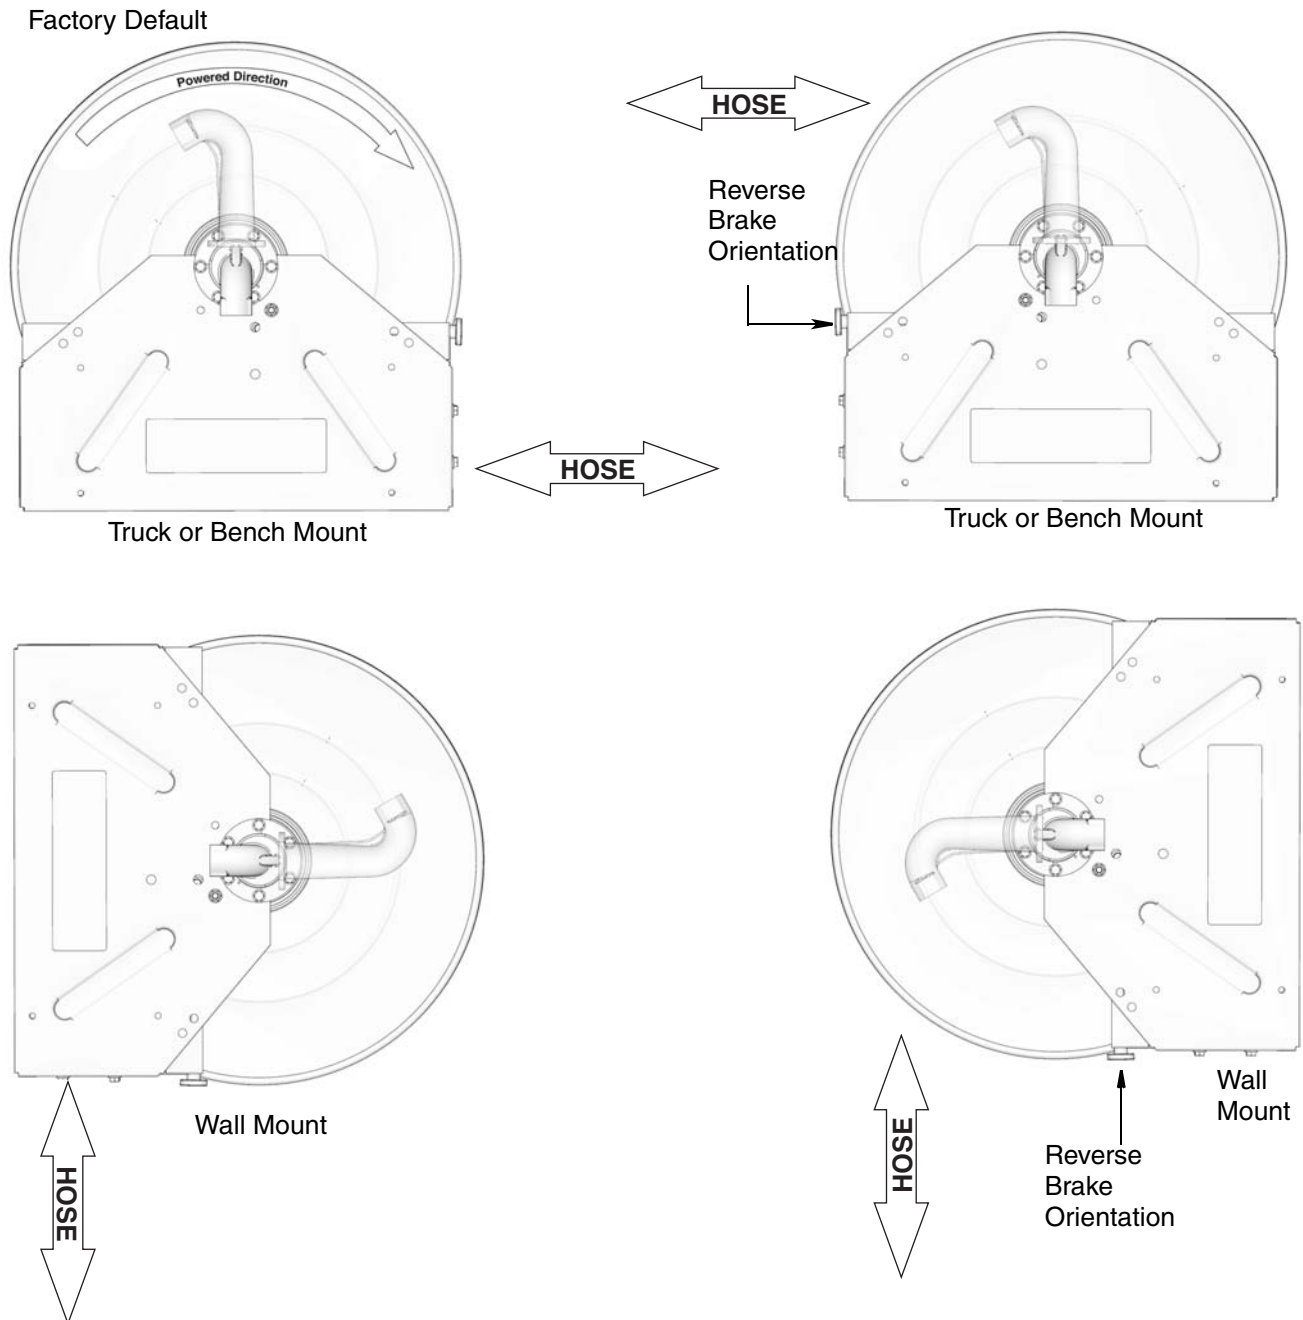
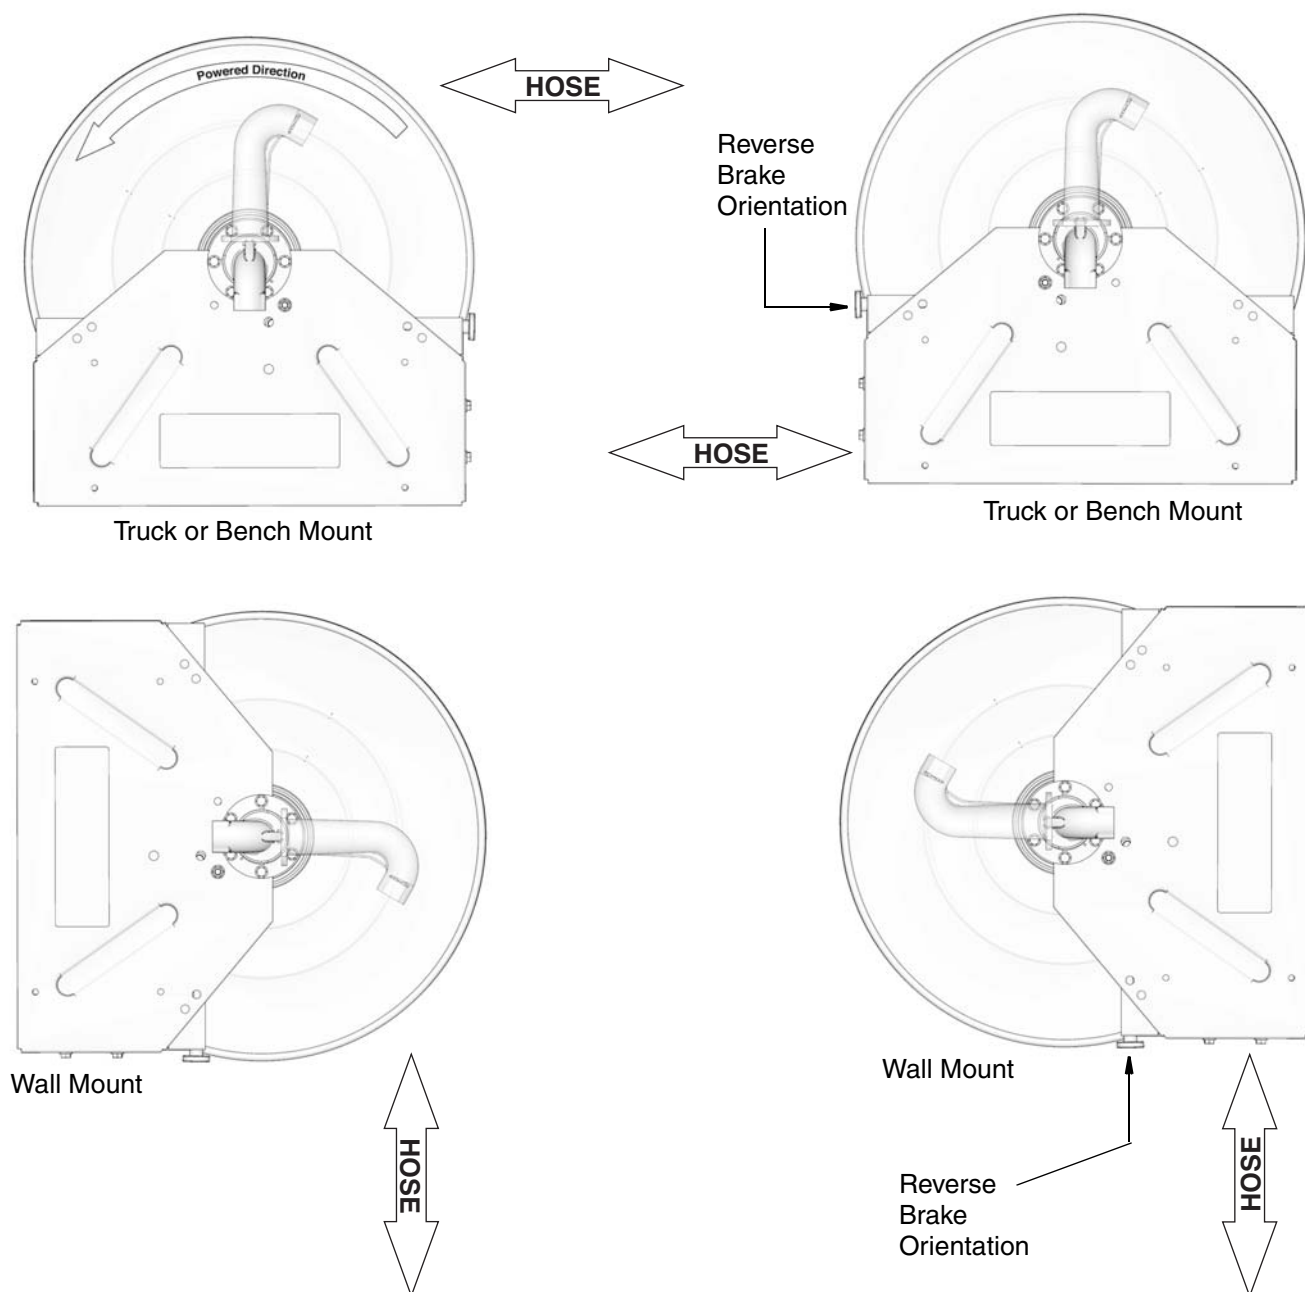

FIG. 7: Inlet Side Shown
FIG. 8: Inlet Side Shown
The outlet (17) orientation and motor (26) rotation can be altered as shown in FIG. 7-FIG. 8.
In the configurations shown in FIG. 7 the motor turns counter-clockwise under power when viewed from the motor side of the reel. All four configurations shown in FIG. 7 have the factory standard motor rotation and outlet orientation.
In the configurations shown in FIG. 8 the motor turns clockwise under power when viewed from the motor side of the reel. All four configurations shown in FIG. 8 require motor (26) rotation reversal and outlet (17) reversal.
3. Determine correct orientation for outlet (17) for your installation location. Refer to Outlet Orientation and Motor Rotation, FIG. 7, page 9 and FIG. 8, page 10.